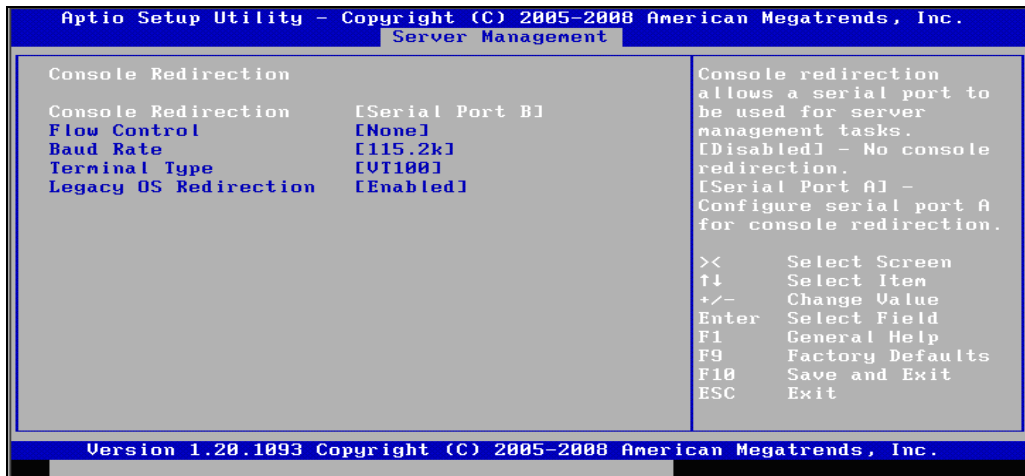

Figure 2. BIOS Console Screen
- Make sure that **OK** is selected; then, press **Enter**, as shown in Figure 2.